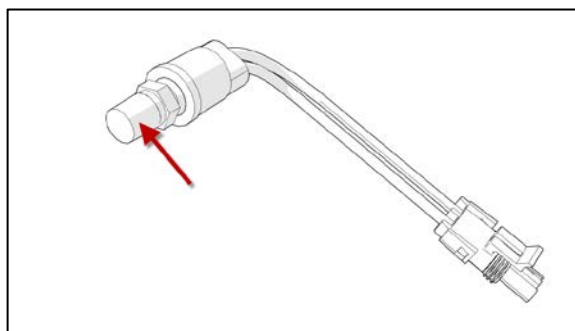

**Figure 7**
9. Apply Loctite 567 (Teflon) all around the threads of the pressure switch (Figure 7).